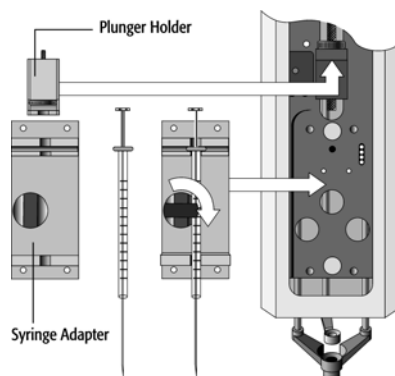

Figure 23. Syringe and Syringe adapter for Liquid Injections
- 3 Place the syringe in the appropriate syringe adapter. Pull the plunger out to approximately 20% of its length (see Figure 23).